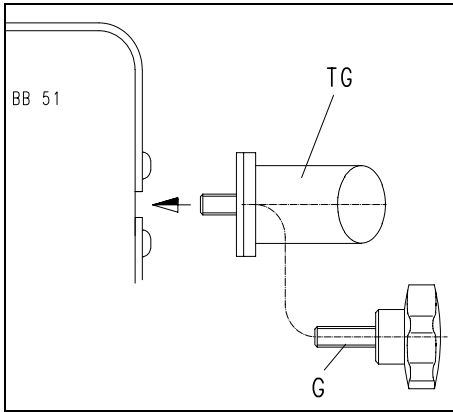

Fig.8
- Insert and tighten the tommy screws **G** together with the transport handle **TG** in the threaded borings (cf. arrow in **Fig.8**).